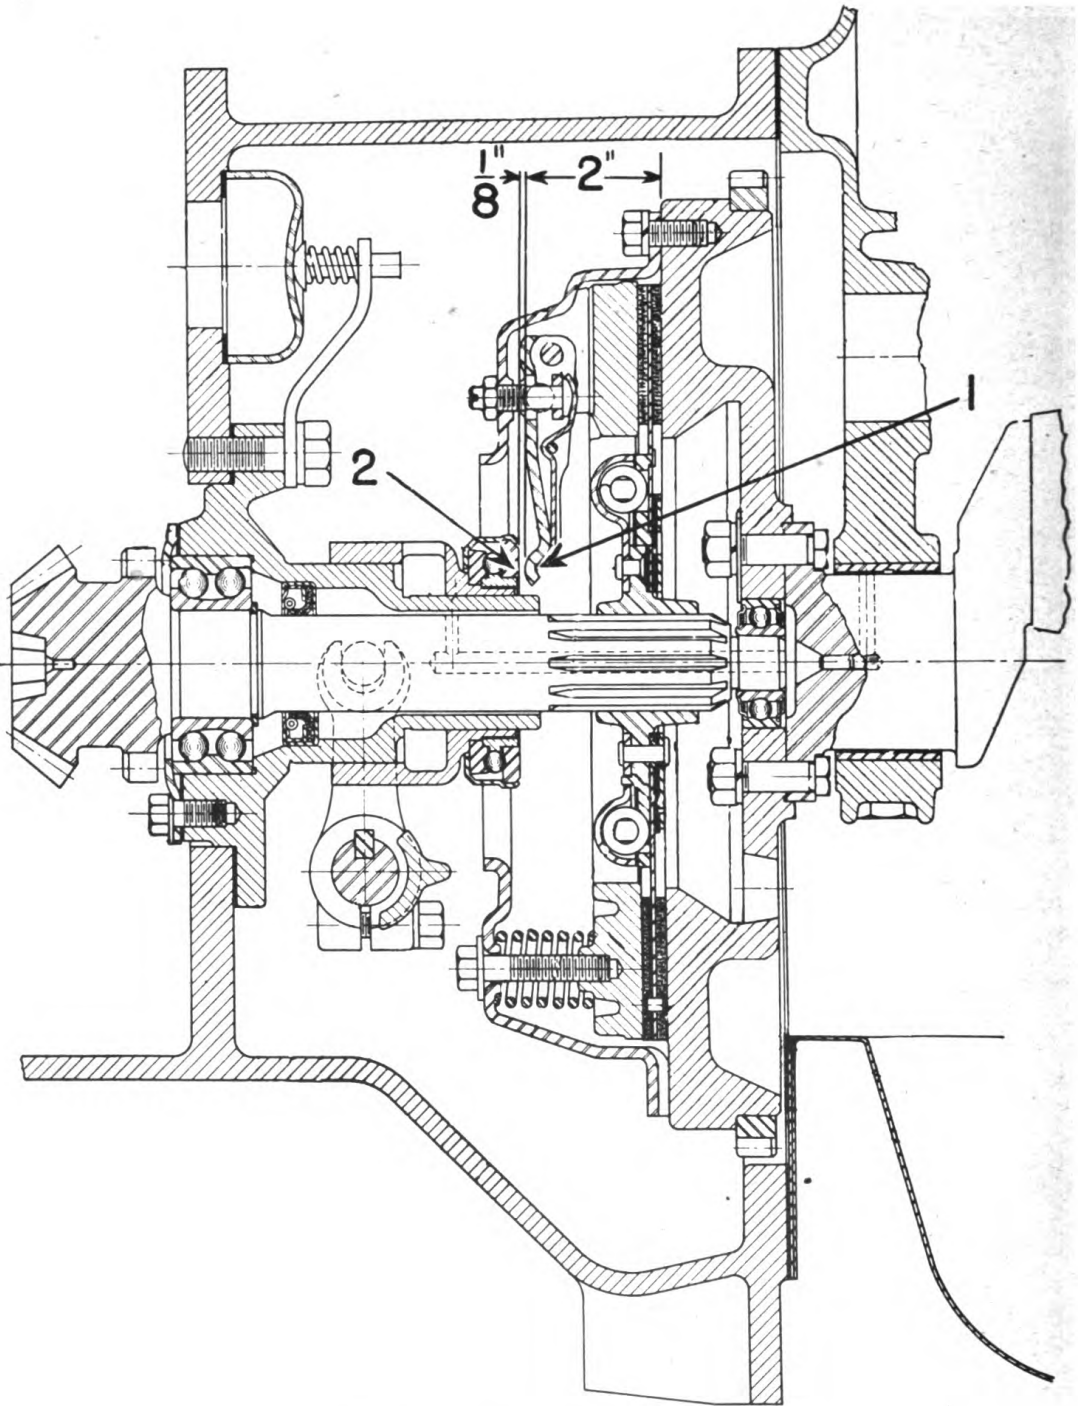

Fig. 69. Details of Clutch
2. Throwout bearing Fig. 69 must not be in contact with clutch finger. This can be observed by removing the left hand clutch hand hole plate.
3. Adjust length of pedal connection so as to provide $\frac{1}{8}$ inch clearance between fingers and throwout bearing shown as $\frac{1}{8}$ " in Fig. 69. This is accomplished by disconnecting the clevis at the clutch lever and unscrewing it enough to give the desired length Fig. 11. Be sure lock nut behind clevis is turned down securely. When length is correct, the foot pedal can be depressed about an inch before throwout bearing contacts the fingers. By depressing pedal the point of contact can readily be felt.